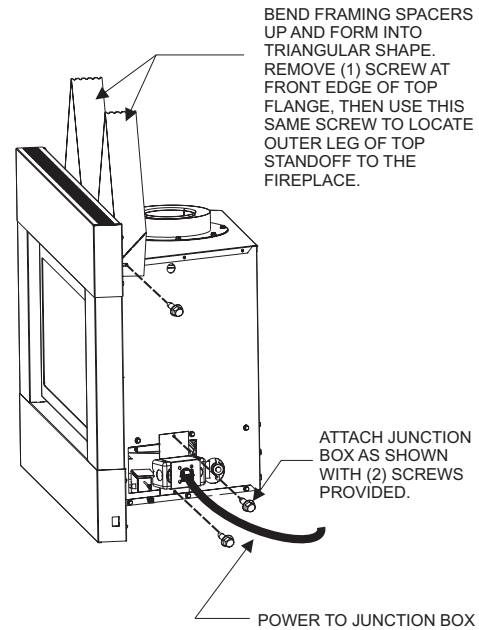

Figure 10
7. Prior to installing the Fireplace, hand bend the two (2) Top Framing Spacers into triangles as shown in **Figure 10**. To attach the outer leg of the standoffs, remove one (1) screw from the front of the outer top flange of the fireplace, then re-install the same screw through the tab of the top standoff spacers into the outer top to secure. **See Figure 10.**
The blower accessory may be installed at any time before or after installation of the fireplace providing that the junction box has been properly pre-wired and secured to the right hand side of the fireplace outer wrap. See Figures 10, 43 and 44.
NOTE: For shipping purposes, the junction box is installed on the inside of the outer fireplace wrap. It is secured with (2) screws on the side of the fireplace. Once removed from the side of the fireplace, wiring to the junction box and receptacle can be performed. Re-install the junction box assembly to the side of the fireplace so that the receptacle faces inward. See page 11, Figure 10.